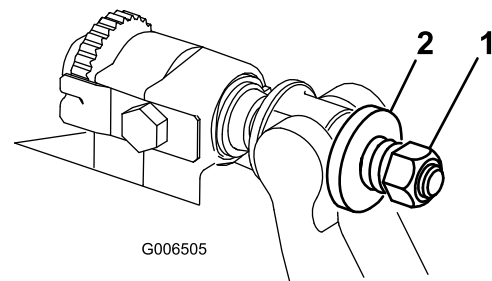

Figure 38
6. Tighten the spring-tension nut until the spring is collapsed, then back it off 1/2 turn (Figure 38).